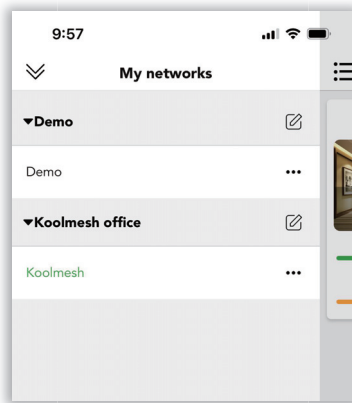

Figure 3.6 My networks
2. Click  for network management and modify owning projects and delete the network (see figure 3.6).